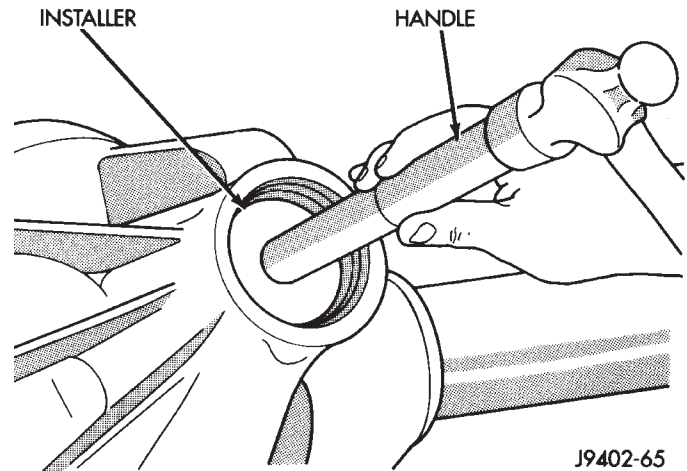
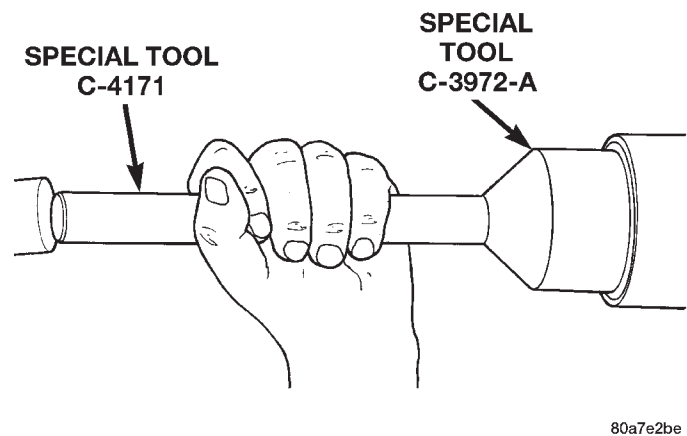

Fig. 41 Pinion Front Bearing Cup Installation
Fig. 42 Pinion Seal Installation
(4) Install the pinion front bearing cup with Installer D-130 and Handle C-4171 (Fig. 41).
(5) Install pinion front bearing, and oil slinger, if equipped.
(6) Apply a light coating of gear lubricant on the lip of pinion seal. Install seal with Installer C-3972-A and Handle C-4171 (Fig. 42).